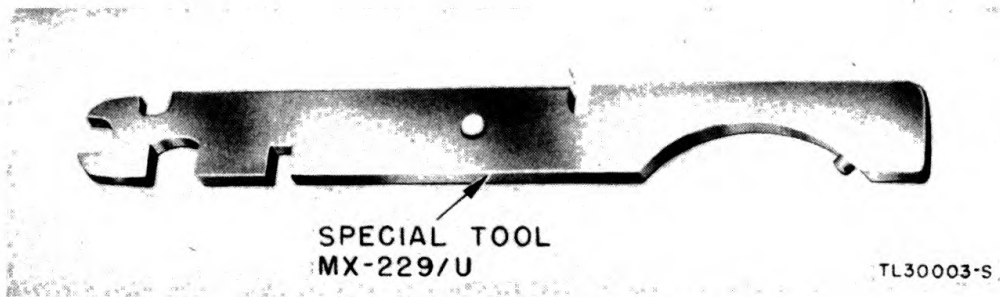

Figure 21. Special Tool MX-229/U.
h. Special Tool MX-229/U (fig. 21). This wrench is 11-3/16 inches long, 1 inch wide, and 1/4 inch thick. One end, used as an open-end wrench, has four openings: 7/16 inch, 9/16 inch, 13/64 inch, and 23/64 inch. One side of the tool has a spanner wrench opening. This special tool is used to uncouple the magnetron from the transmission line of Radio Set SCR-545-A.